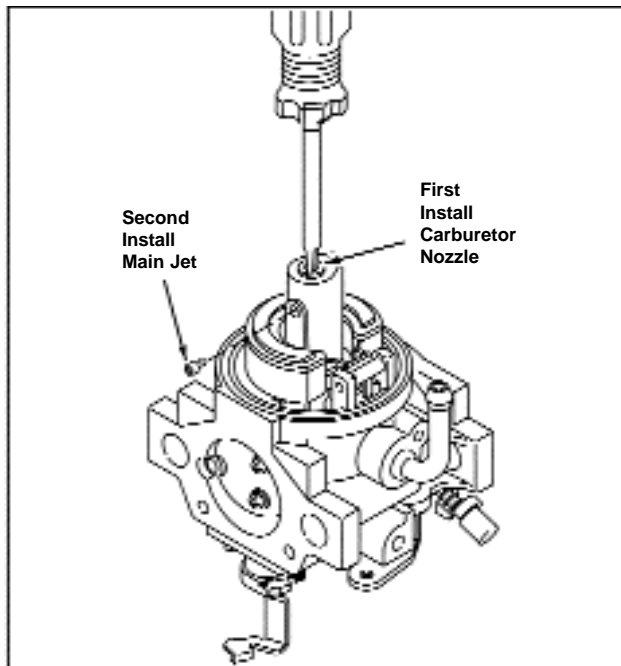

Figure 34 - Installing Carburetor Nozzle and Main Jet, High Altitude Compensation
3. Install nozzle and then main jet, See Figure 34.